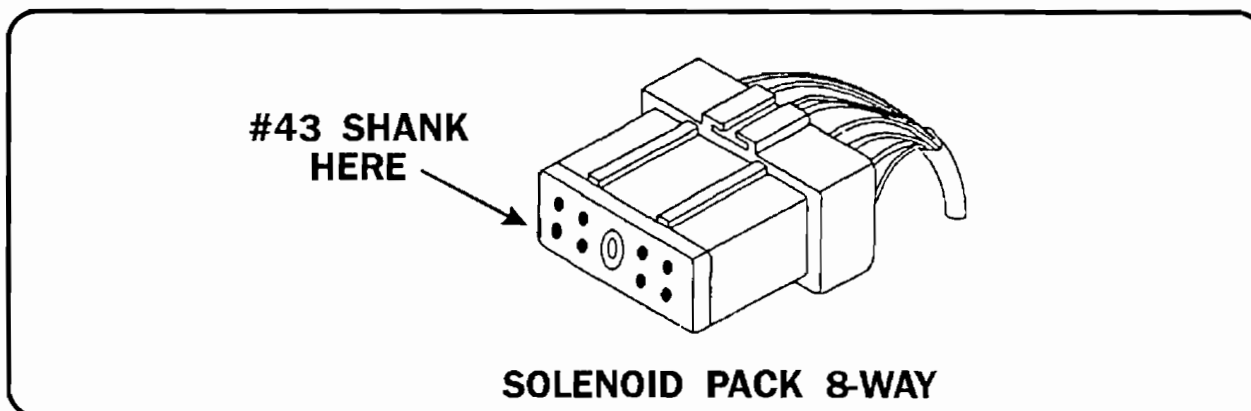

Figure 78
1. To check the 8 way connector, use the shank of a #43 drill bit or a .0890 guage. See figure 78.